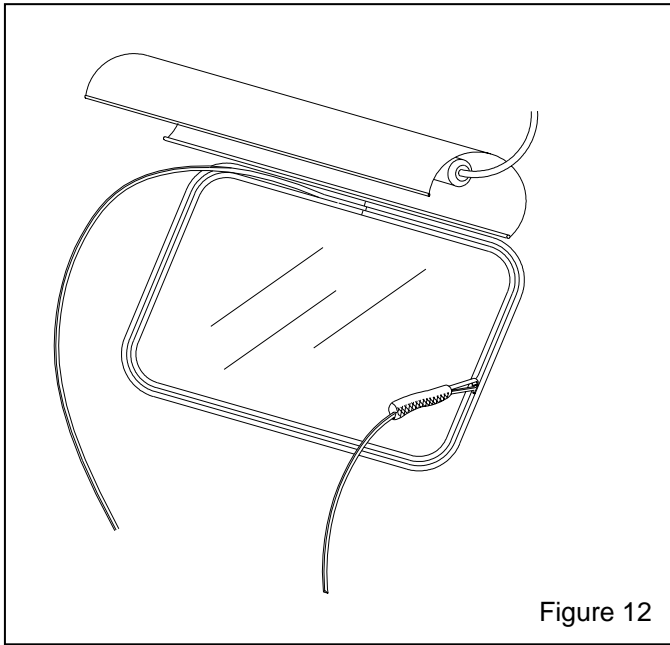

Figure 12
6.3.10. Feed the filler strip while pulling the tool through the top of the channel, down the side and across the bottom until that end of the strip is in place. Ref. Figure 12.